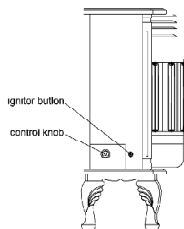
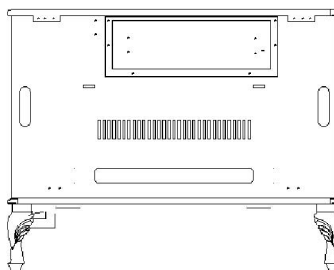

Figure 16-Control Knob and Ignitor Button Location
Figure 17-Open right side door through the slot at the back
3. Open right side door through the slot at the back. then you can see control knob and ignitor button (see Figure 16)
5. Wait five (5) minutes to clear out any gas. Then smell for gas, including near the floor. If you smell gas, STOP! Follow "B" in the safety information, page 12, column 1. If you don't smell gas, go to the next step.
6. Turn control knob counterclockwise ↻ to the PILOT position. Press in control knob for five (5) seconds (see Figure 17).